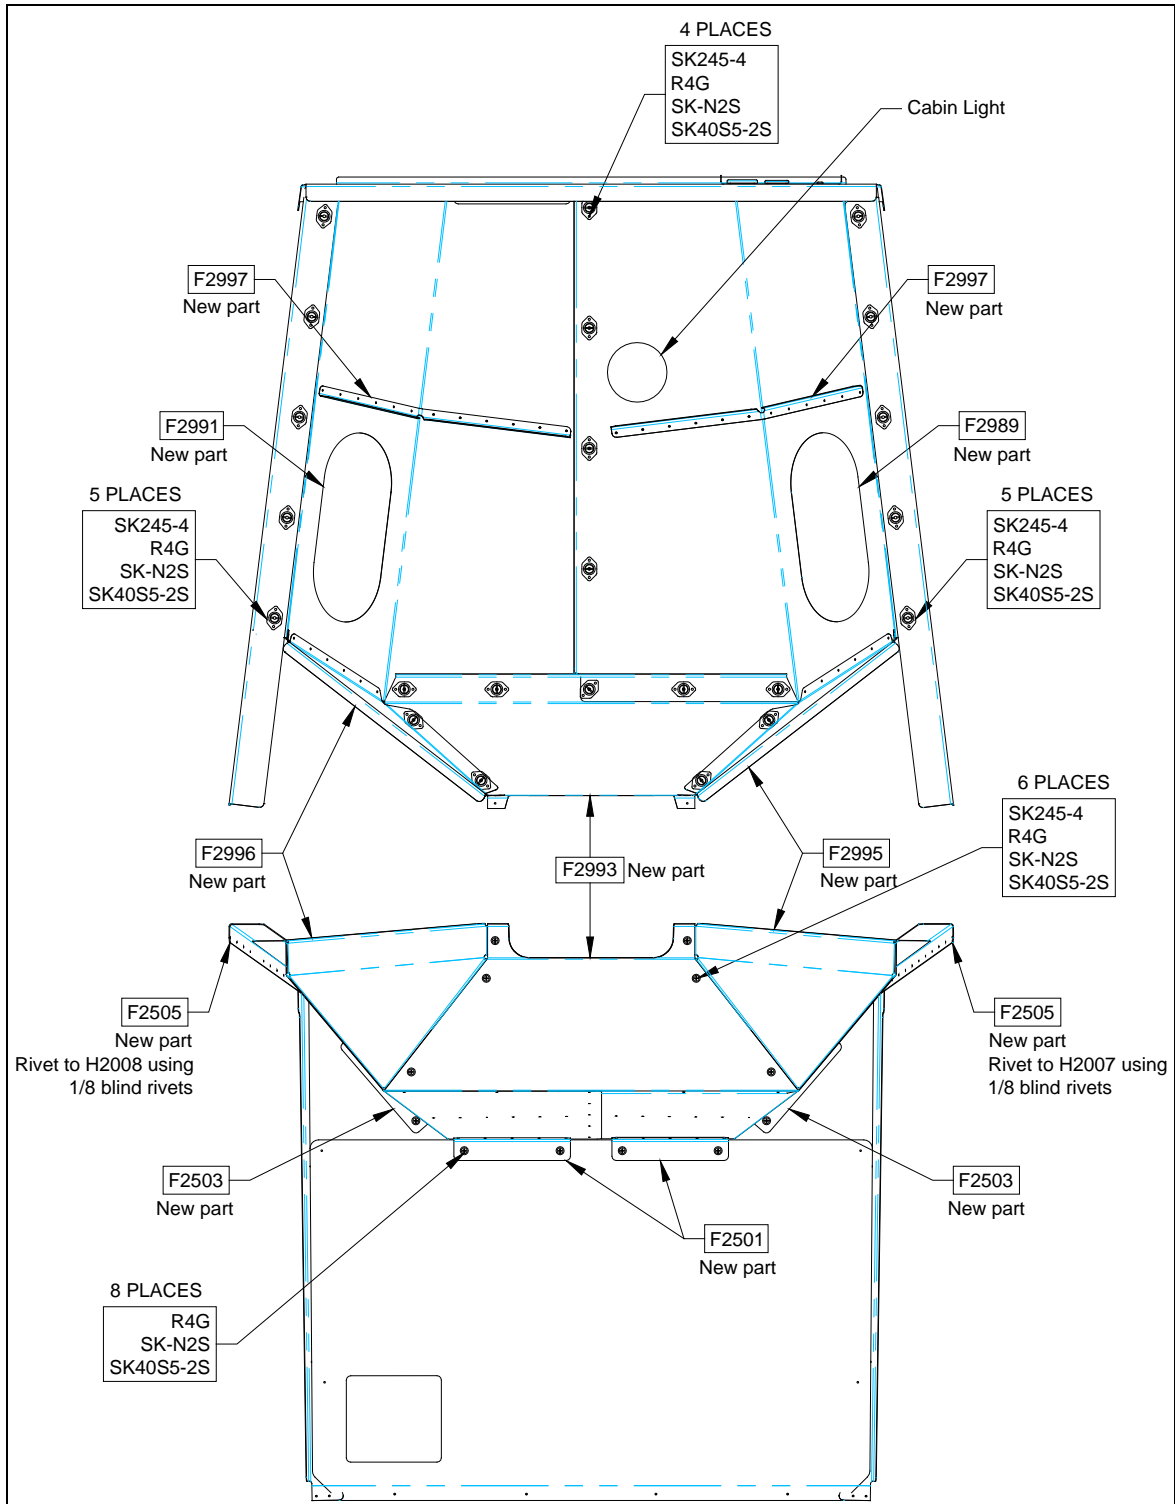

Figure 5
5. Evaporator Cover, ref. Figure 5